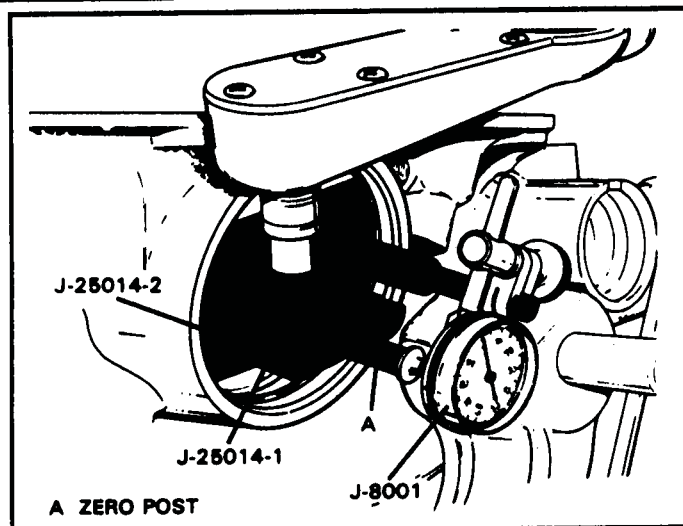

Figure 140
2. Install measuring tool J-25014-2 into the intermediate servo bore, and retain with servo cover snap ring, as shown in Figure 140.
4. Install dial indicator on J-25014-2 zero post, as shown in Figure 140.
5. Align stepped side of pin J-25014-1 with the torquing arm of J-25014-2 (See Figure 140).